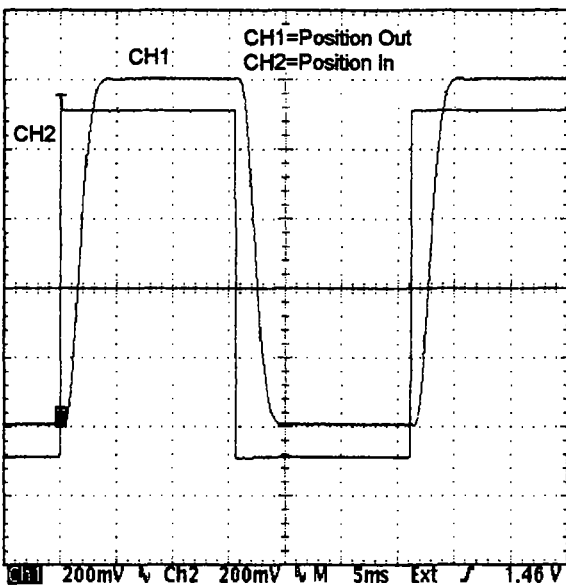

Figure 4.
10. Turn R59 CW until the second overshoot is minimized, i.e. at the same amplitude as the settled position. See Figure 4.